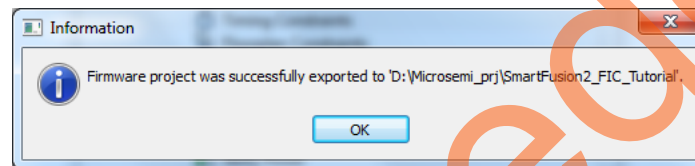

Figure 42 • Export Firmware-Information
4. Click **OK**. The **Information** dialog box is displayed as in Figure 42.